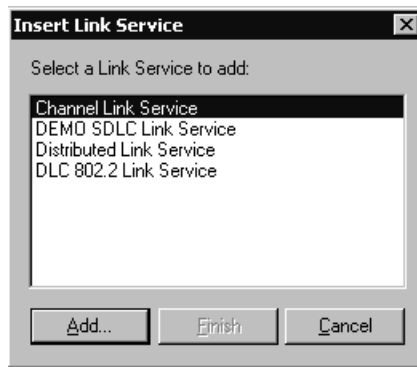

Figure 8-8. Select Channel Link Service
3. A list of installable link services will appear. Select **Channel Link Service** and click Add (Figure 8-8).